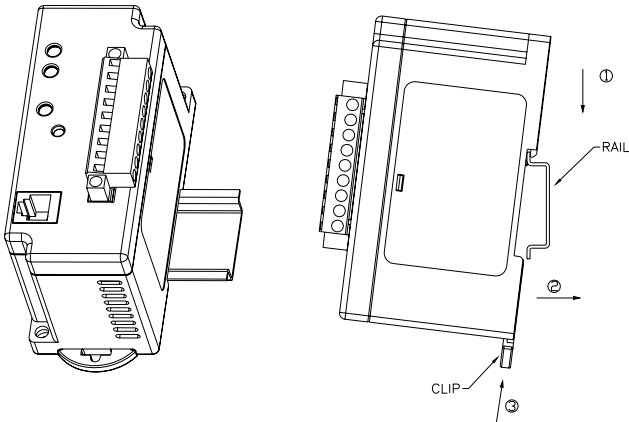

Figure 2-1
1. Please refer to Figure 2-1 to mount LN-01 on the DIN rail.